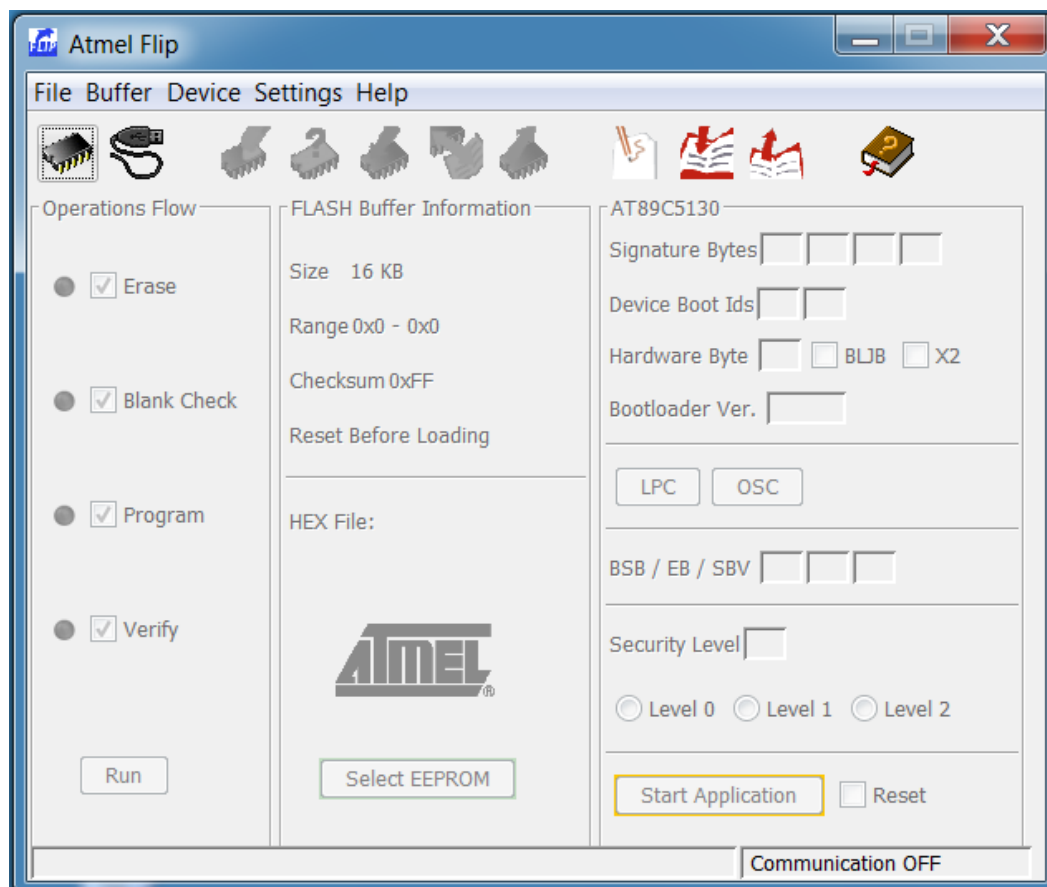

Figure 10.1: FLIP starting screen
1. Run FLIP software, screen at start up as see in Figure 10.1.